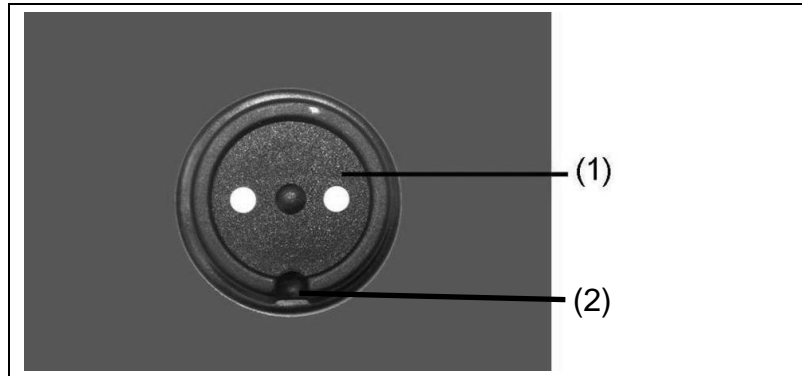

Fig. 5-9: MagCode charge current socket
1. Align the MagCode plug of the external charging device (e.g. battery charging device) using the locking device (Fig. 5-9-(2)).
2. Place the plug on the MagCode socket (Fig. 5-9-(1)).